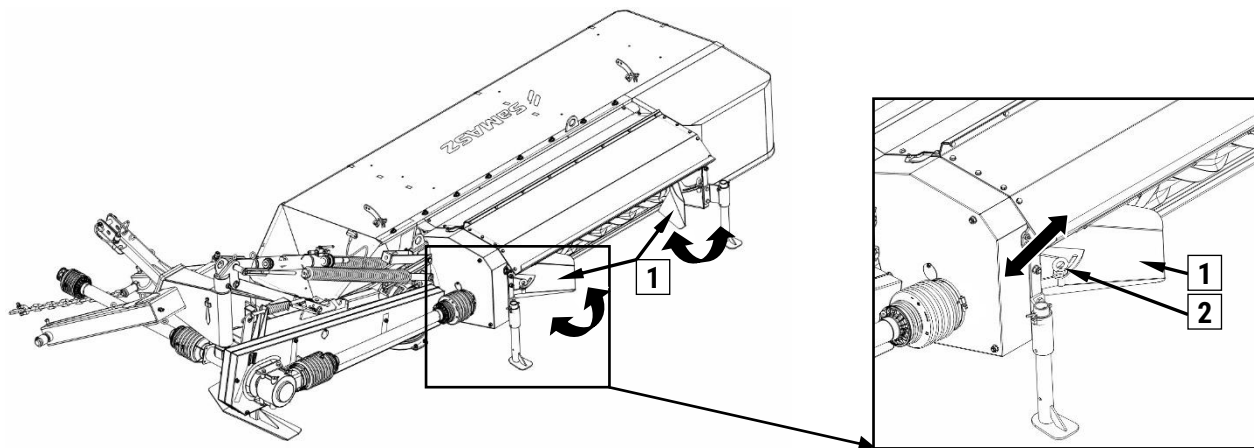

Fig. 27. Adjustment of swath guides: 1- swath guide, 2 - adjustment screw
In order to set swath width, adjustment of swath guides (1) should be performed (**Fig. 27**) (for: **KDT 220 W, KDT 260 W**):
- ❑ loosen eye screw (2) of the swath guide,
- ❑ set the swath guide (1) as needed,
- ❑ tighten screw (2).